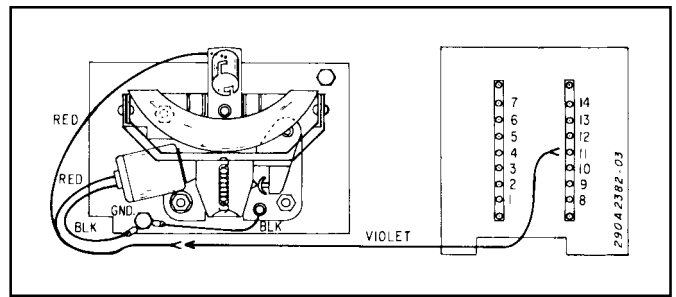

Figure 3.
5. Connect male terminal of the violet wire (supplied) to female terminal on the traffic clearing light mechanism. Connect female terminal of the violet wire to position 11 of terminal block adjacent to the red wire (see figure 3).